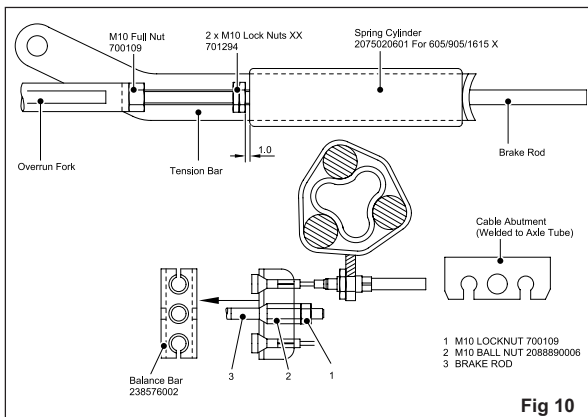

Fig 10
- Ensure the balance bar (compensation) is being pulled evenly. This bar (double on tandem axles) should always be paralleled with the axle tube when pulled (Figs. 8 & 10). Adjust M8 lock and ball nuts, if necessary, to achieve correct parallel position (Fig. 10).
- Over adjustment to the long ball nut (Fig 10), could induce movement of the inner brake cable, reducing the effective clearance of the brake shoes. If the overrun lever will not make contact, it is possible the two lock nuts, forward of the spring cylinder, are incorrectly adjusted. Loosen the nuts and adjust the brake rod as above (Figs 8 & 10).
- Adjust the two locking nuts, forward of the spring cylinder (Fig. 10), (on some chassis a single Nyloc nut is used) to give 1mm of clearance on the spring
(See Fig. 10). If the overrun assembly is fitted with a gas strut handbrake then no spring cylinder is fitted - therefore ignore this paragraph).